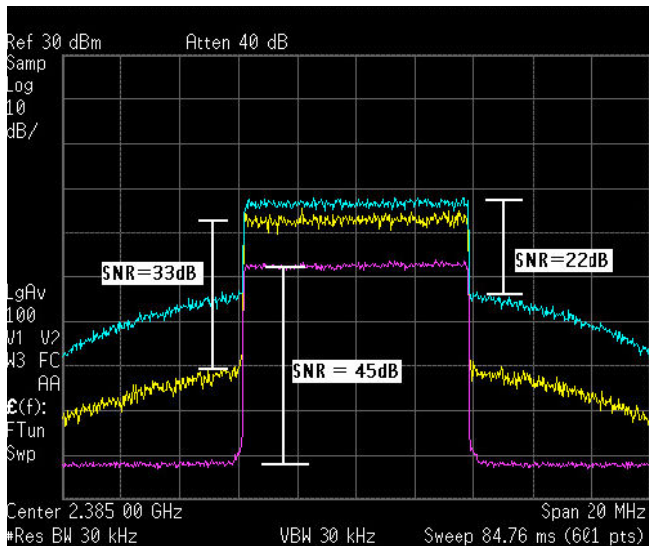

Fig.1
These higher PAR levels translate to higher power being needed in an amplifier. That can be seen as inefficiency, as the heavy lifting is being done at lower power levels, or as a reasonable cost of increasing the density of the data. Crest Factor Reduction (CFR) schemes that pre-clip the signal can reduce the PAR for some types of modulation, but even so, complex modulated signals will still degrade slowly over a wide power range as the signal peaks are increasingly clipped in the amplifier (see **fig. 1**). This causes progressively increasing digital errors and also pushes energy into adjacent channels, creating "noise". It is important to remember that PAR for complex-waveform signals can vary with the data payload sent, so try to test your system with a worst-case data set. Pseudo-noise (PN) data produced by a signal generator may not represent your worst- case signal.
Figure 1 shows an OFDM signal degrading in an amplifier as the Peak power approaches and crosses over the P_1 compression point. The lowest trace is an uncompressed signal with better than a 45dB signal-to-noise ratio (SNR). The middle Trace 2 shows the input signal 10dB higher than for Trace 1, with signal peaks just touching the P_1 point. While the gain across the data channel has increased by 10dB, Intermodulation distortion has created “shoulders” of noise, reducing the SNR to 33dB. Increasing the drive by only 5dB in Trace 3 shows that the power in the adjacent channels has increased by 16dB, and SNR has been reduced to about 22dB. Your specific application will determine what level of SNR is required or can be tolerated.